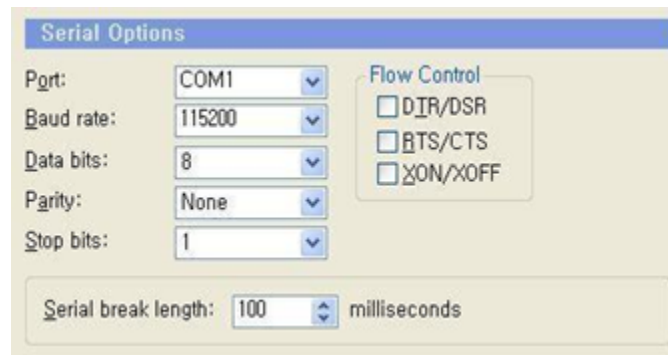

Figure 5. Serial Options
5. Configure the terminal session to connect to the debug serial port with the following characteristics (see Figure 5):